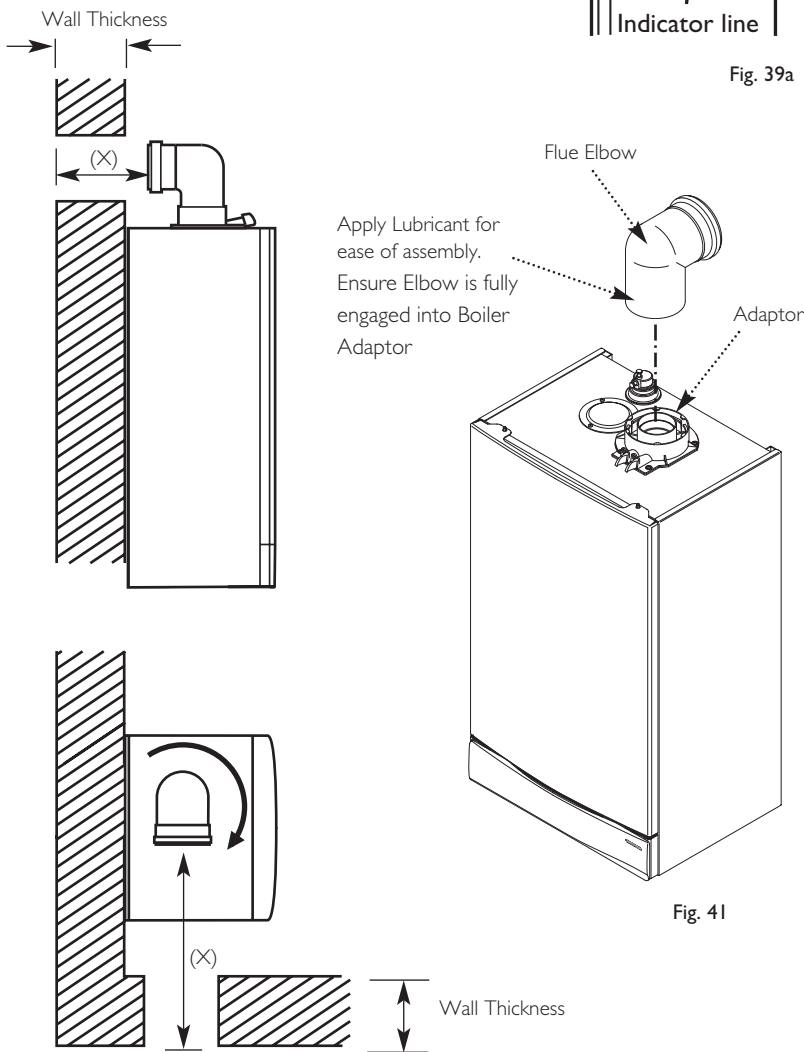

Fig. 40
3. Measure the distance from the outside wall face to the elbow. This dimension will be known as 'X' (Fig. 40).